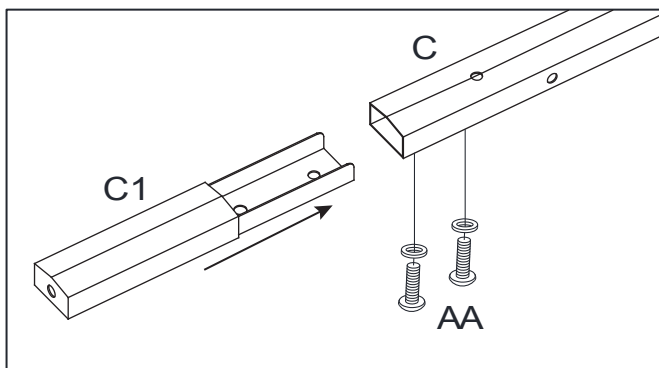

Fig.7.1
7.1. Attach the Long Top Bar (C) and the Long Top Bar (C1) together, then fix them with Bolt (AA). See Fig.7.1.